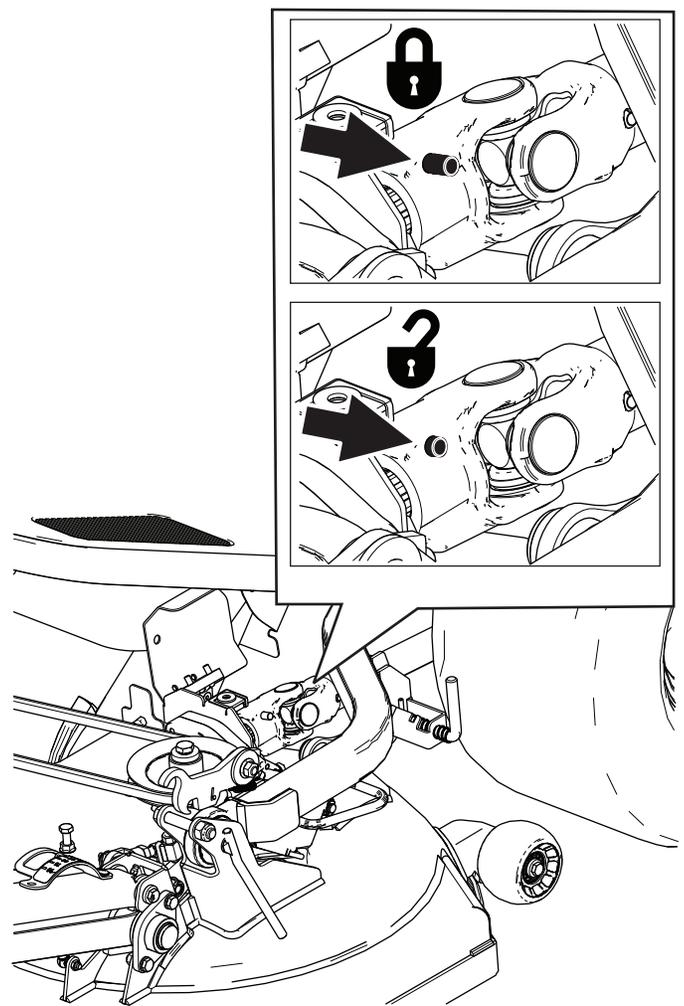

Figure 92
1. Rotate the quarter-turn fastener and open the universal-joint cover from the belt cover (Figure 92).
2. Disconnect the forward end of the driveshaft from the cutting-unit gearbox by pressing the spring-loaded pin, and then pulling the end of the driveshaft rearward (Figure 92).
3. Release the spring-loaded pin and check that the universal joint of the driveshaft is locked into the cutting-unit gearbox; refer to Figure 92.